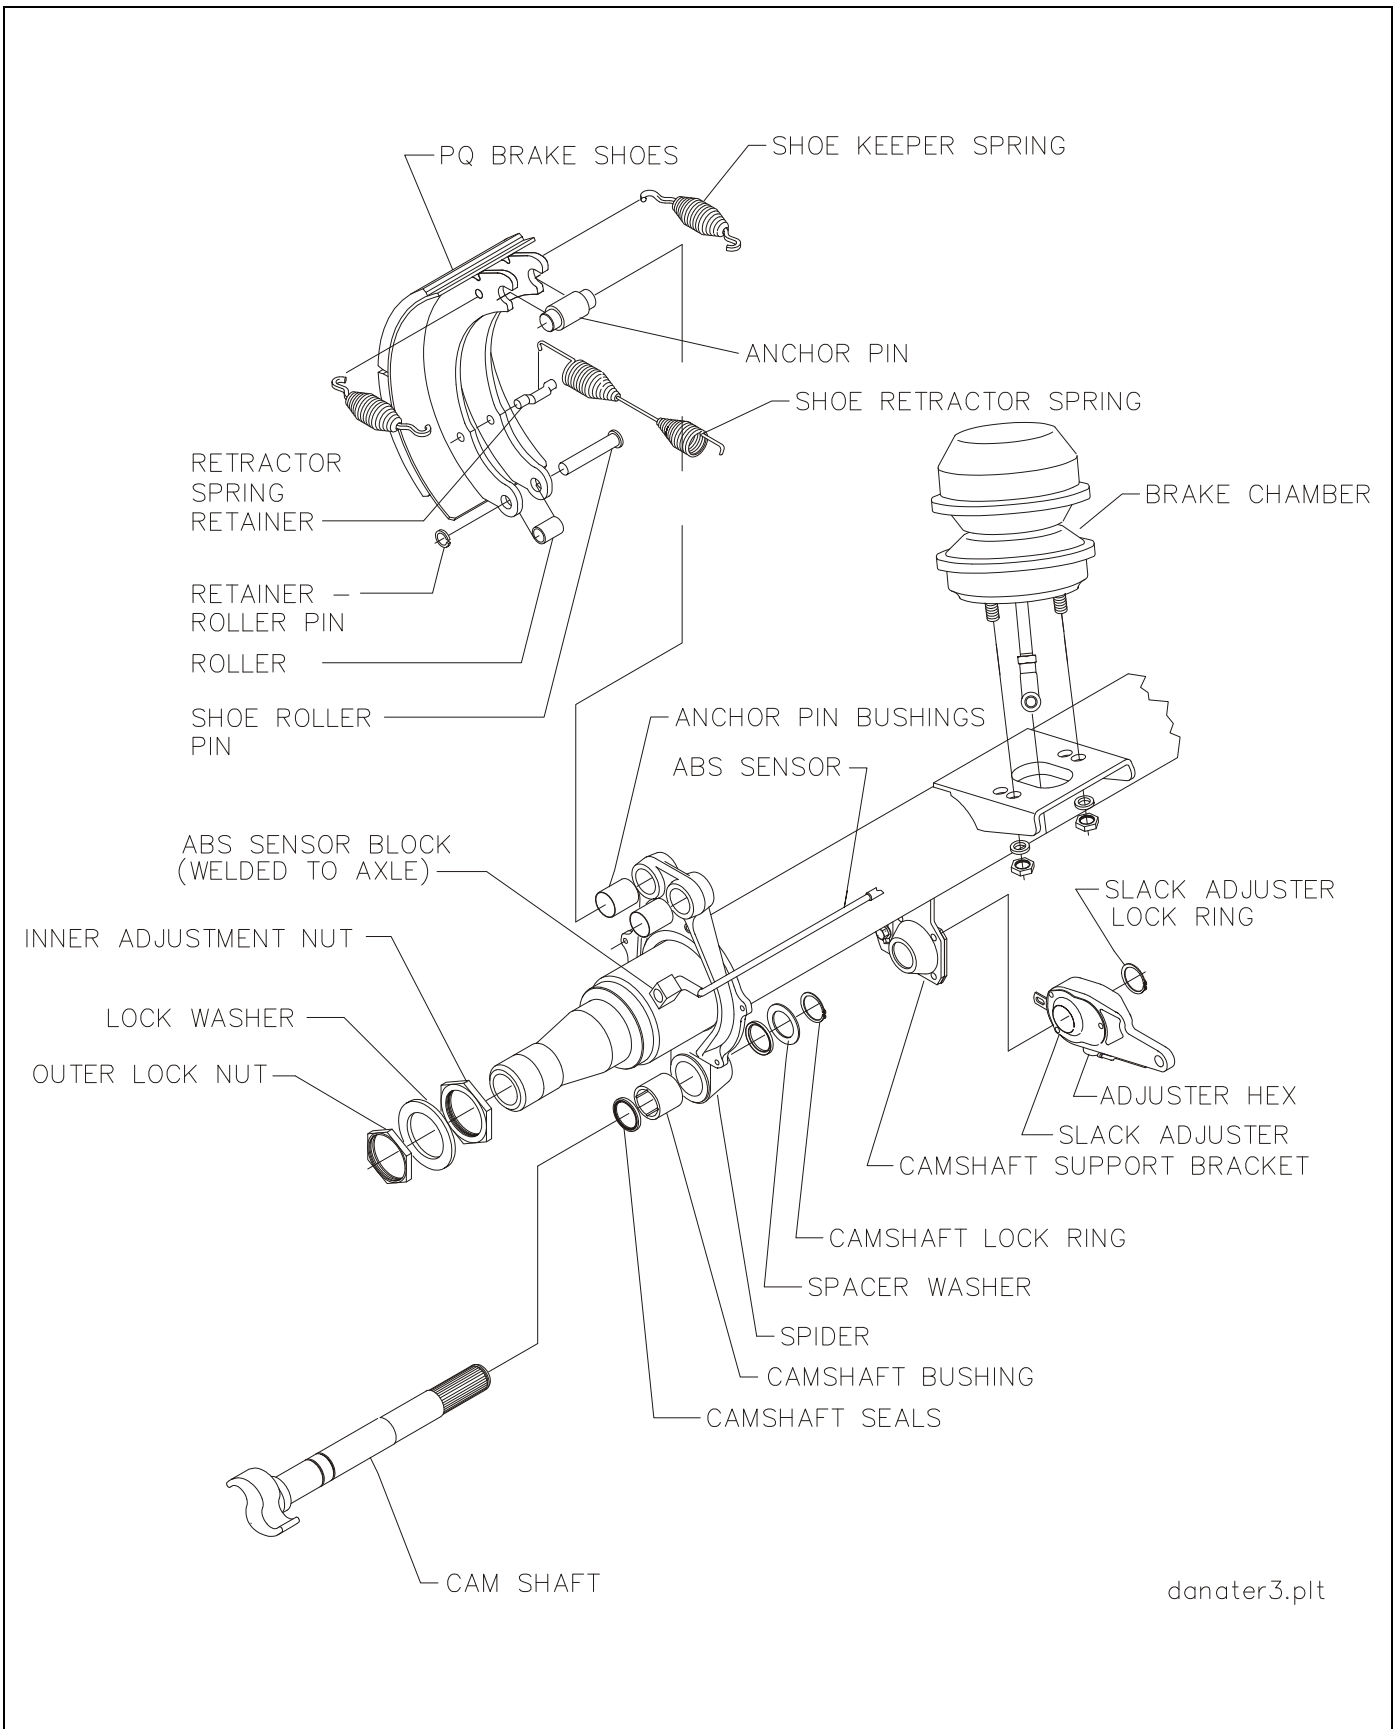

Figure 4-8: Axle and Brake Assembly
2. Remove dust cap from the rear of the spring brake chamber (See Figure 4-8.)
3. Remove drum assembly (**See Figure 4-8.**)